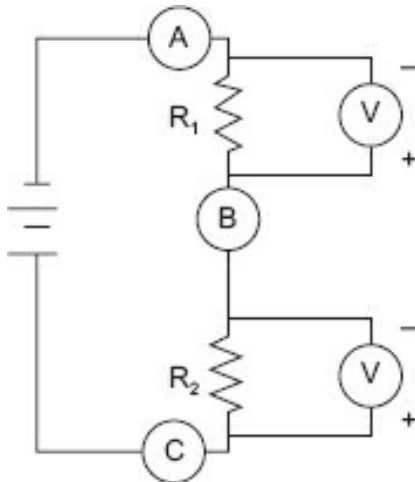

Figure R1-1.
2. In Figure R1-1, if you were to measure current, where would you insert your meter